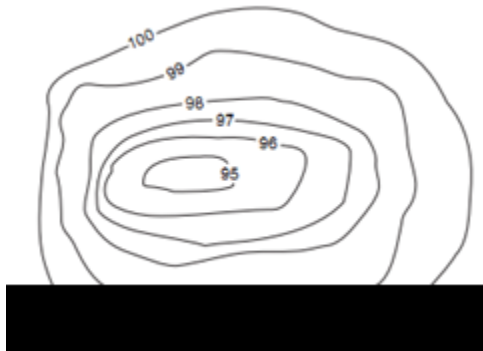

Fig.1 Contours
Ans-A contour line is a imaginary line which connects points of equal elevation. Such lines are drawn on the plan of an area after establishing reduced levels of several points in the area. The contour lines in an area are drawn keeping difference in elevation of between two consecutive lines constant. For example, Fig. 1 shows contours in an area with contour interval of 1 m. On contour lines the level of lines is also written.
6. Approximately concentric closed contours with decreasing values towards centre (Fig.1) indicate a pond.